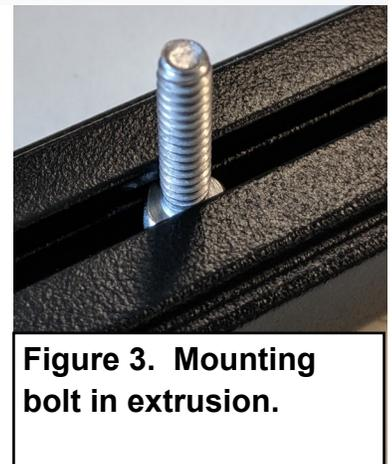
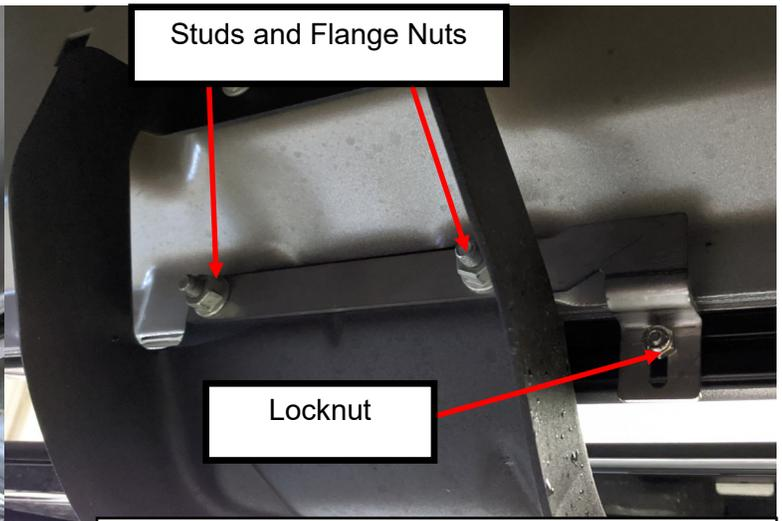

Figure 4a. Existing studs
Figure 4b. Fastening Extrusion to Vehicle
1. Orient the brackets as shown in **Figure 2**. Using a 13mm socket, fasten the brackets to the vehicle with flange nuts (**Figure 4b**).
3. Secure the extrusion to brackets with locknuts using a 3/8" socket, as shown in **Figure 4a** and **Figure 4b**.